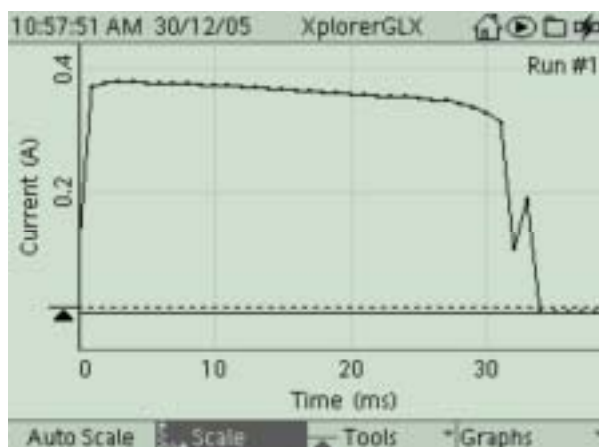

Figure 1 Current-time graph for a 100mA 'Quickblow' fuse
- Q4** Quickblow - the current rose sharply, appeared to almost level off for a while before falling sharply to zero. (As you will note on Figure 1 there was an odd 'spike' just before the fuse melted.) Slowblow – the current rose sharply and there was then a steady 'decay' to a levelled off value which continued until datalogging was stopped.